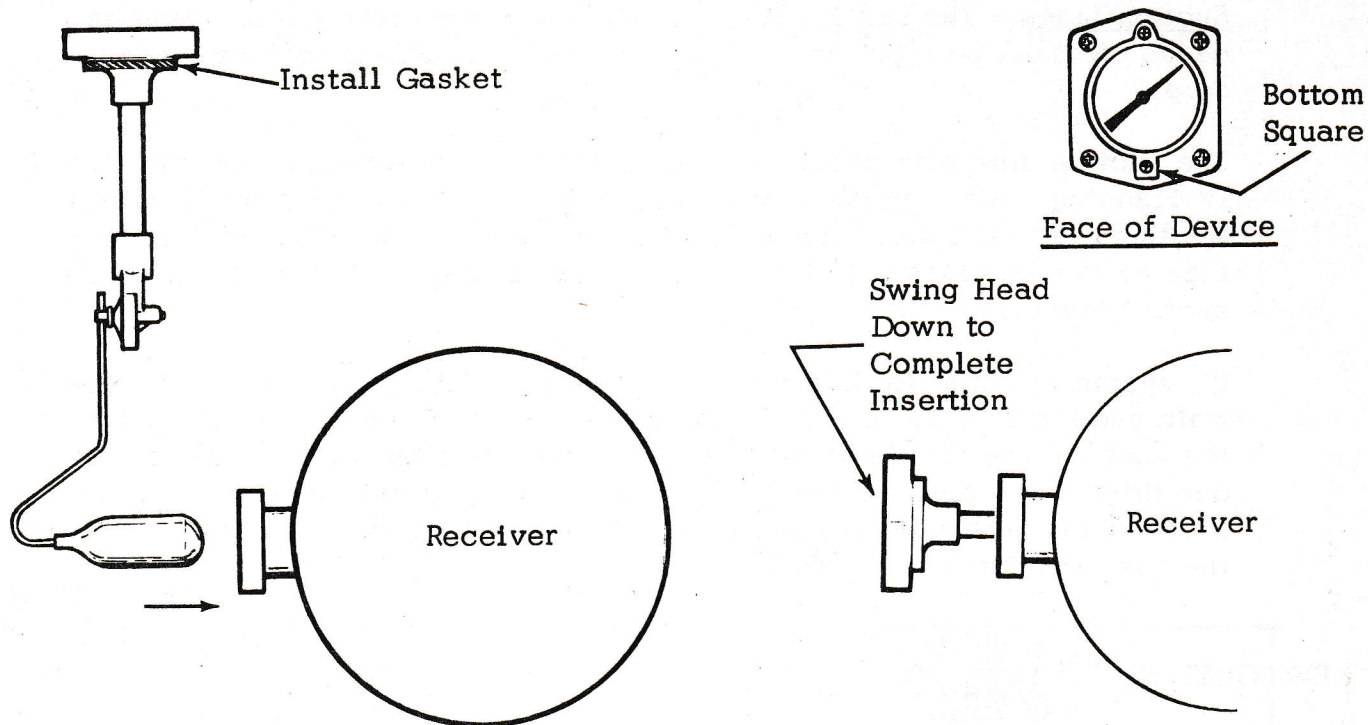

Figure IV-4
2. Coat the new gasket with a light film of oil and install it over the flange on the back of the indicator. Holding the dial face straight up, insert the float into the receiver. See Figure IV-4. Swing the head down to complete the insertion, taking care not to bend the float arm.